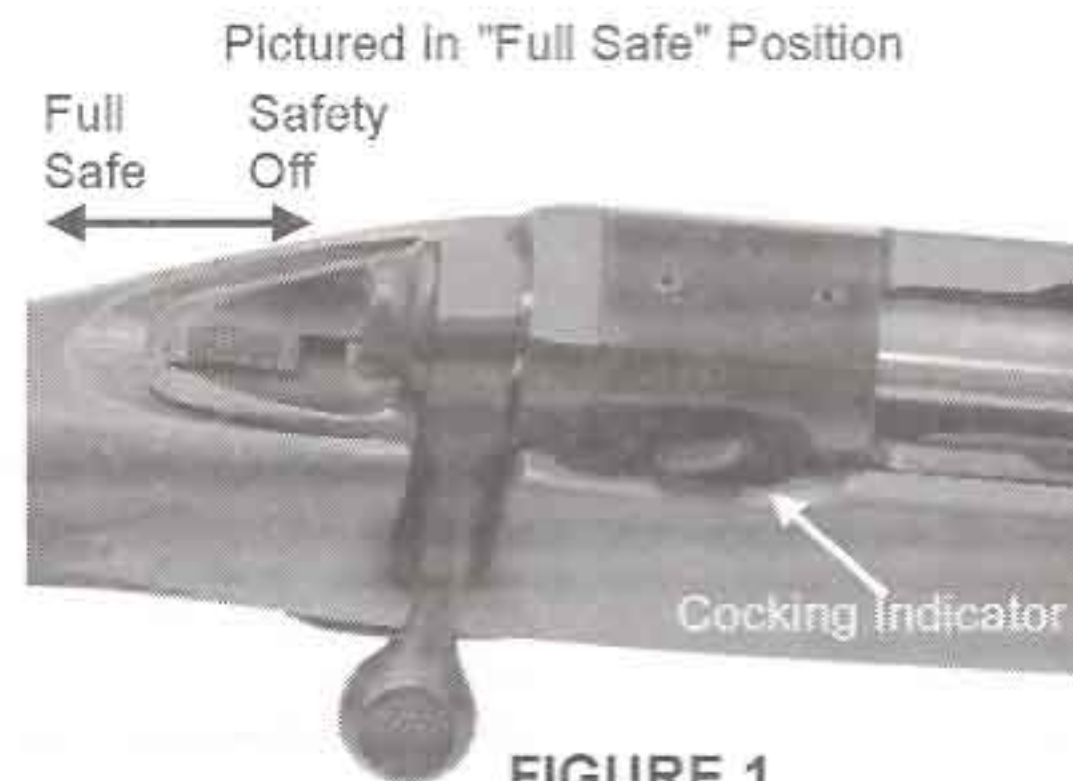

FIGURE 1
A) The safety is in the *FULL SAFE* position when it has been moved fully rearward, covering the red "F" (See *FIGURE 1*).